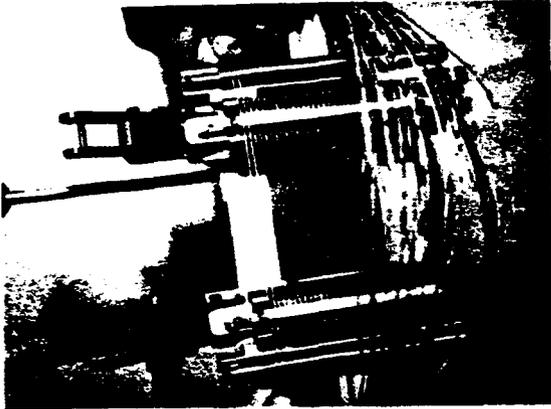

FIG. 22 FIRST FANNED T AND R WIRES
4.38 Select the first wire pair (color coded order). Untwist the pair over a 7" length in the center and carefully stretch the wires straight beyond the retainer springs. Dress the T and R wires respectively (T on left and R on right) into the first and second slots on the extreme left end of each set of combs, and into the springs. The wires must be dressed positively into and downward into the springs to be held securely. Important: Each wire must be in the correct comb slot and there must be no twist or wire cross all the way to and also slightly beyond the outside of the springs (twisted wire can result in wire breakage in later operations). Dress and center the wires so that there is an equal amount of wire on the outside of each spring. See Fig. 22.